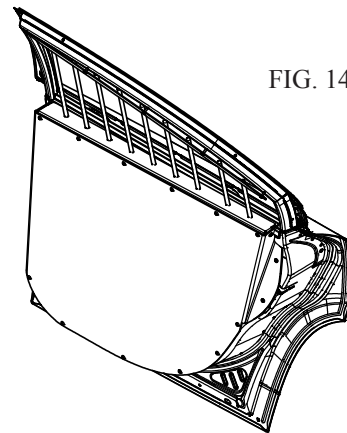

FIG. 14
A. The Door Panels and their mounting hardware are packed in separate box marked DP5611 . Install the Door Panels according to their included Install Instructions. (See Fig. 14)
A. The Window Barriers and their mounting hardware are packed in separate box marked WB56C11. Install the Window Barriers according to their included Install Instructions. (See Fig. 14)